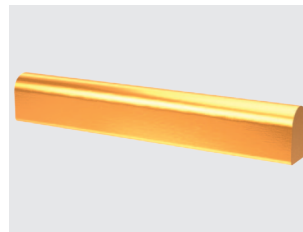

Fig. 1
- 1. Maschio micro e macro (Fig. 1)** E = Elitor®
1. Maschio E (Fig. 1)